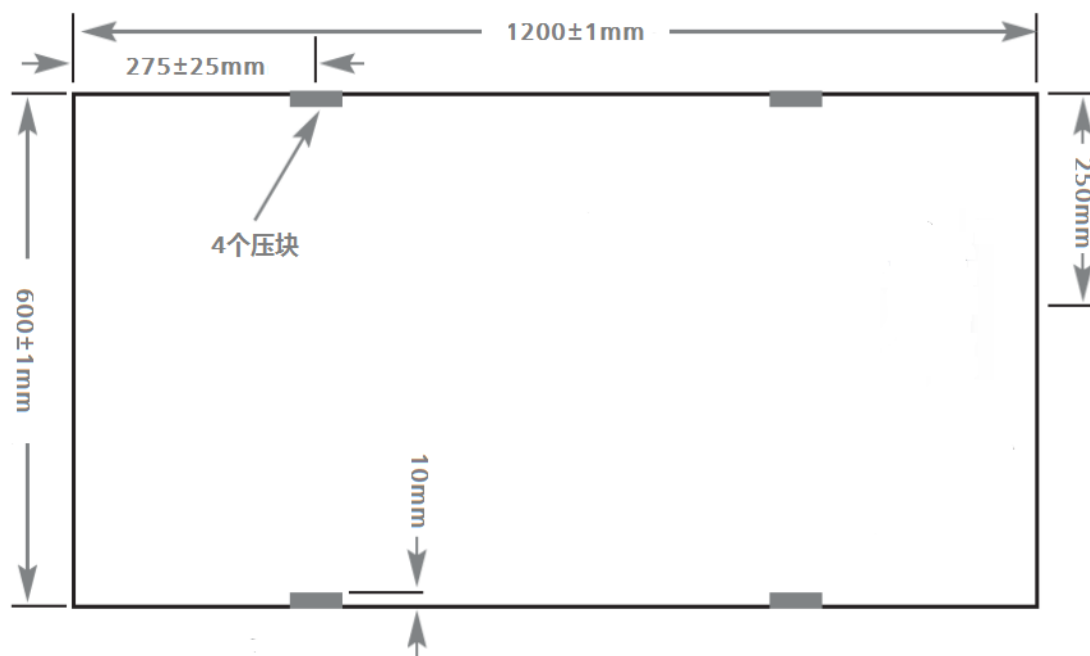
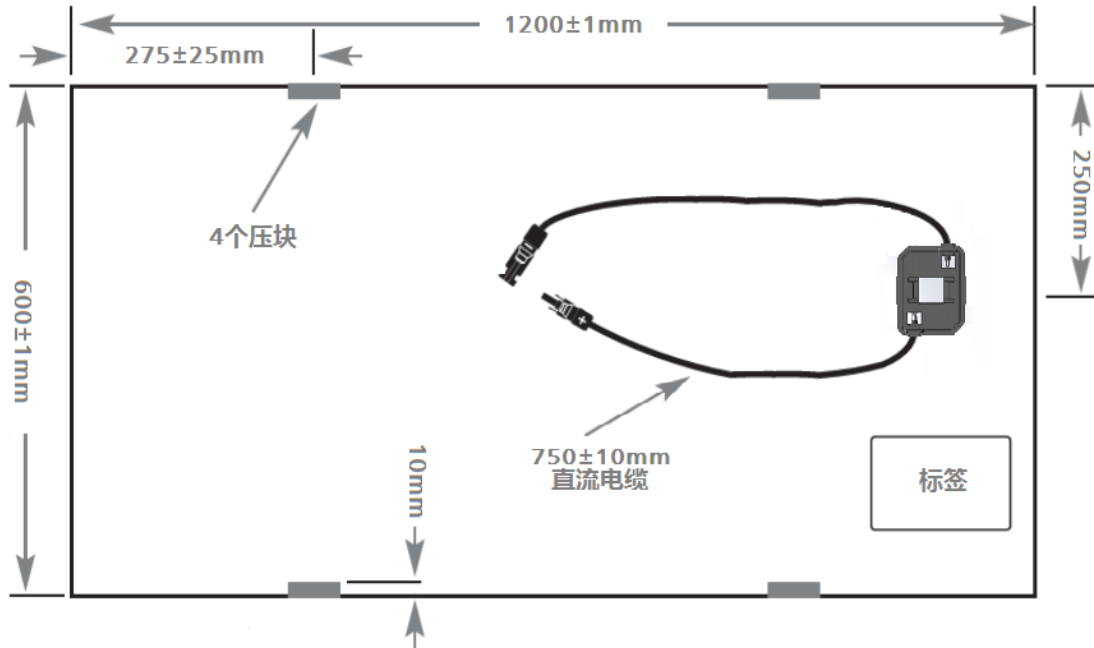

Figure 1. Recommended position of clamp (front side)
Figure 2. Recommended position of clamp (back side)
The module shall be fixed to the support structure with a fixed clamp (or equivalent) located at four (4) symmetrical points. The fixture should be distributed along the length of the module(1200mm) and its center point should be located 250mm to 300mm away from the corner of the module. Figure 1 and figure 2 describe the location of the module clamp.